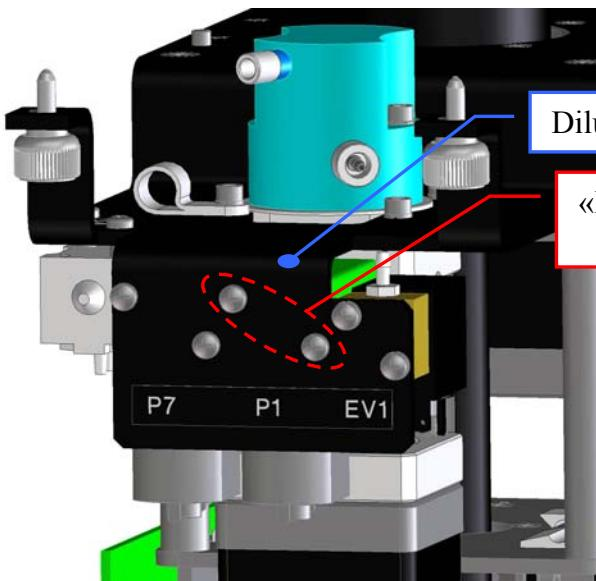

Fig. 37 – « P1 » Diluter Micropump fastening screws
4. Unscrew the two fastening screws of the “P1” Diluter Micropump (Fig. 37) and take out it from the Diluter mechanical support.